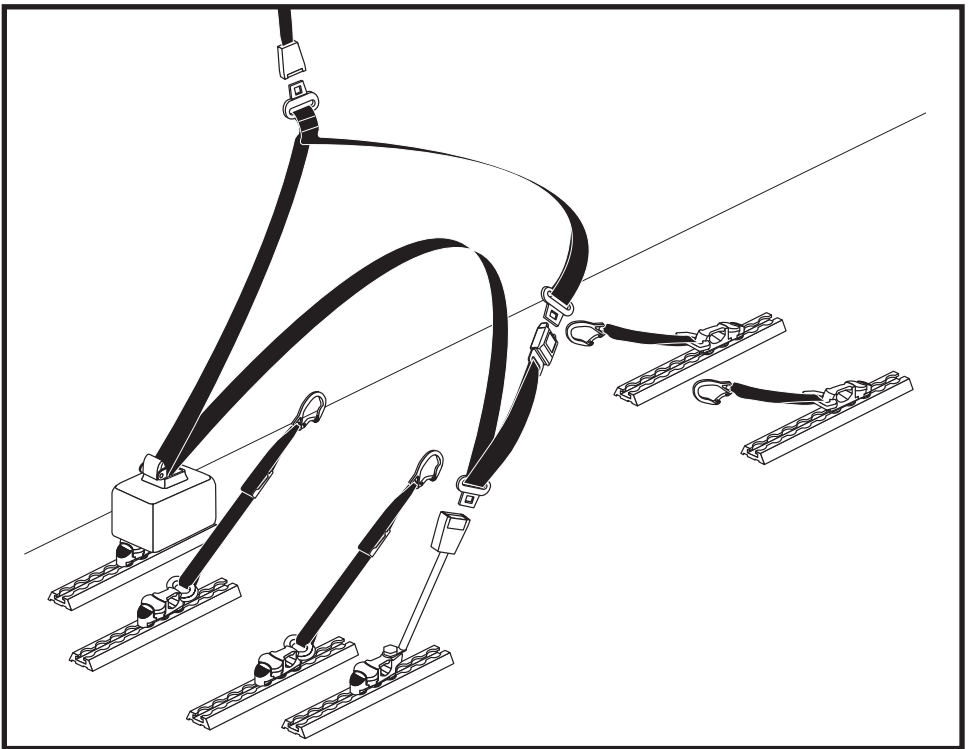

Figure 15. Vehicle-anchored Belt Restraint
- If your power chair is equipped with a crash-tested pelvic belt that is anchored to the vehicle, complete the restraint system by attaching the lower end of the WTORS upper-torso belt to the pelvic belt by referring to the WTORS manufacturer's instruction. Crash-tested vehicle-anchored pelvic belts will be labeled to indicate compliance to ISO 10542. **See figure 15.**